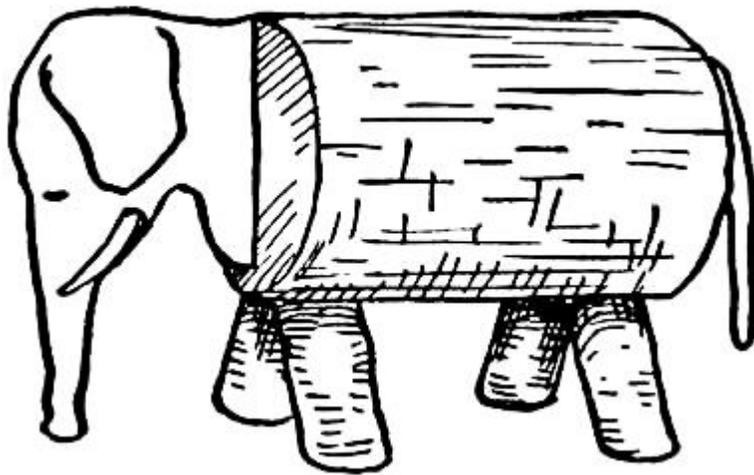

FIG. 399.—The Elephant.
**The Elephant**, and cut the head, trunk, ears, and tusks out of a piece of cardboard as shown in the illustration (Fig. 399). Cut the tail out of another piece of cardboard, and glue it in a slit made in the end of the cork. The legs are, of course, larger around than those of the horse, and, as matches will be too slender, whittle four short wooden pegs for them. Point these pegs at one end, and, after dipping them in glue, stick them into the cork.